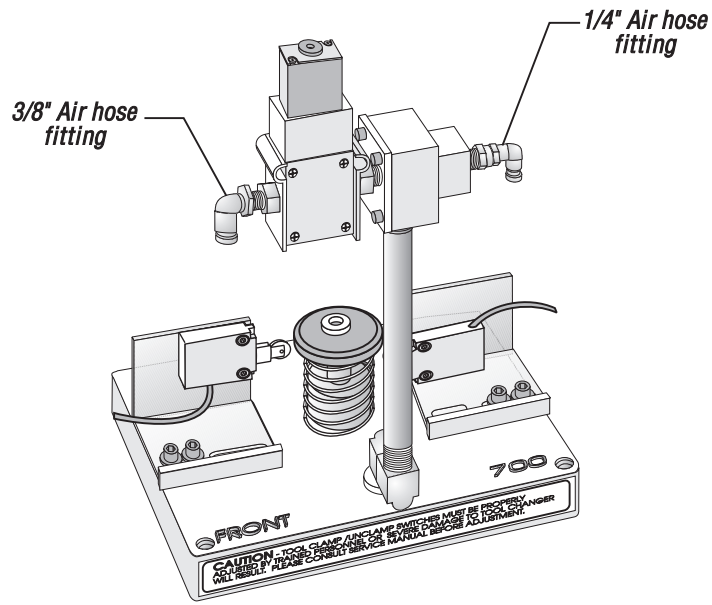

Figure 2-2. Tool release piston with solenoid valve.
6. Remove the tool release air hose and precharge hose at the fitting shown in Fig. 2-2. If machine is equipped with TSC, also remove the coolant hose.